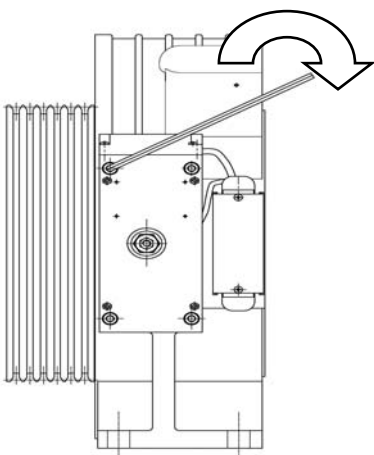

Fig.24 Pre-tightening of installation bolt
3. Pre-tighten installation bolts as shown in Fig.24 on P18;